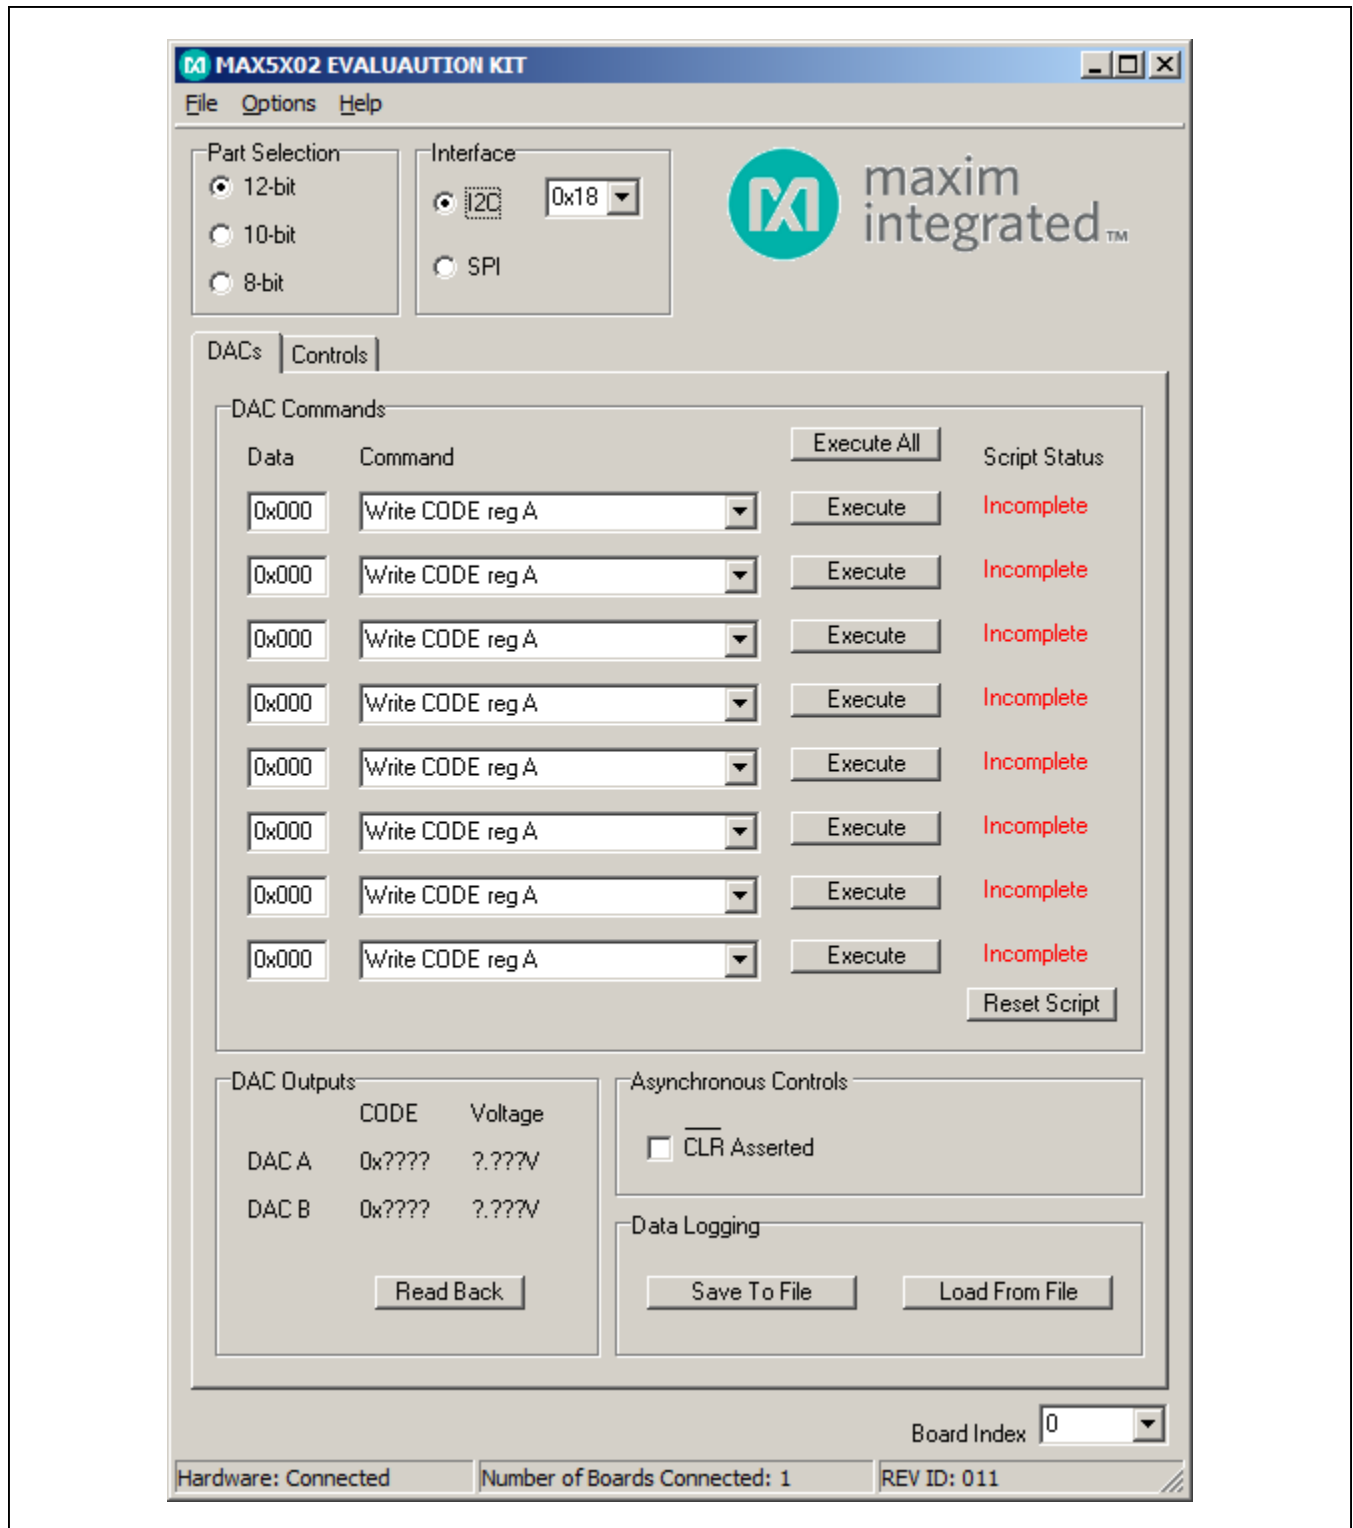

Figure 2. MAX5X02 EV Kit Software Main Window (I²C)
- 10) Select the **I2C** radio button in the **Interface** group box and the GUI automatically detects the I²C address. See Figure 2.